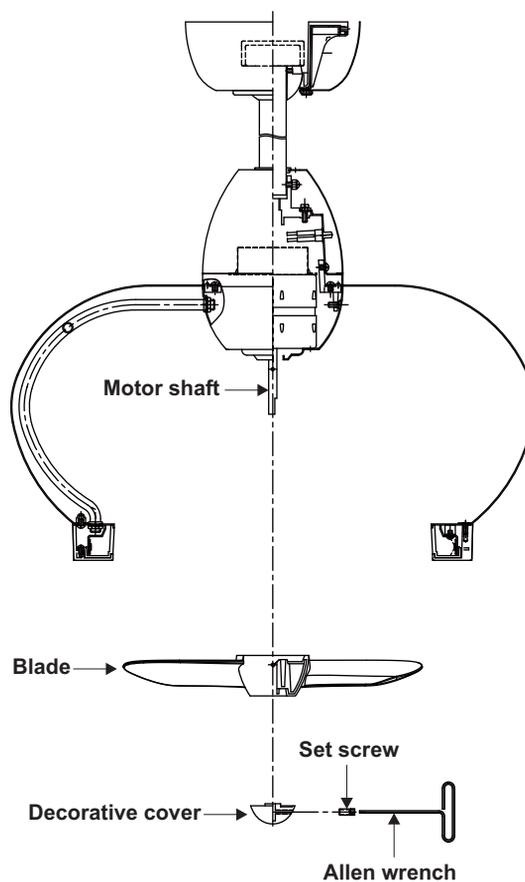

Figure 13
2. Slide down remove the decorative cover and fan blade. (Fig. 13)